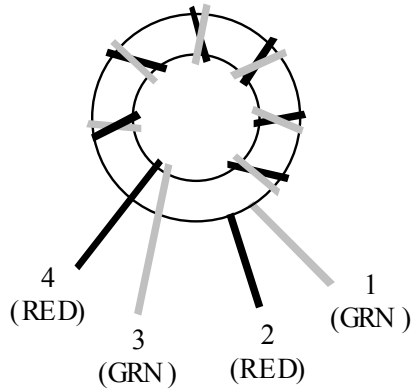

**Figure 20**
- Wind 7 turns of the twisted wires onto the small ferrite core (FT37-61). The turns should be spaced to cover about 80-90% of the core, as shown in Figure 20 and Figure 21. **Note:** To make the turns spacing easy to see, the wires shown in Figure 20 were not twisted together.
- Strip and tin the leads of T3. (Figure 20 shows the leads tinned.)